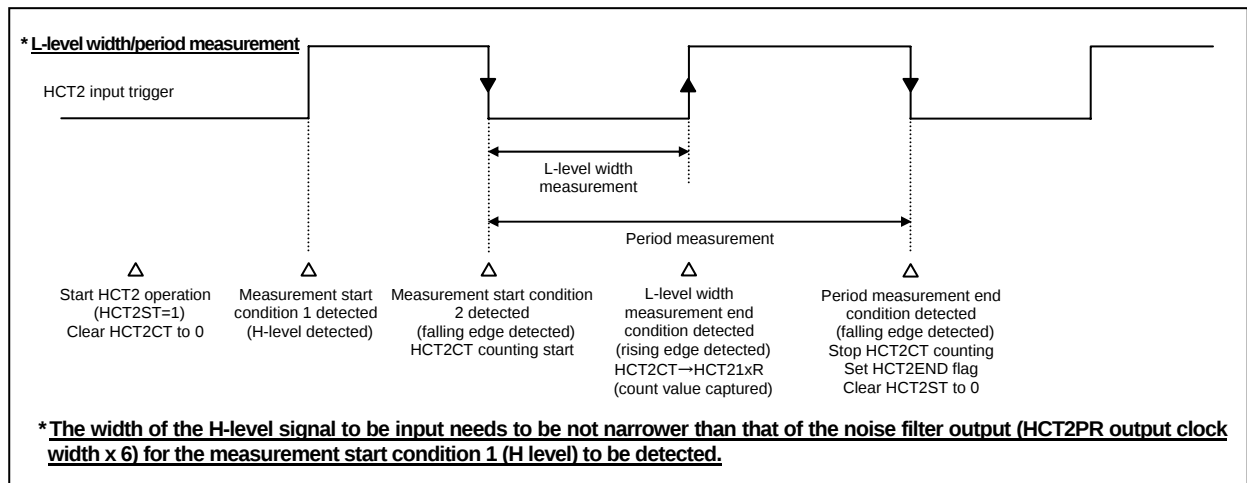

Figure 3.8.2 Sample High-speed Pulse Width/Period Measurement Counter 2 Waveforms
- 3) The contents of the HCT2CT are captured into this register if the end of L-level width measurement condition is detected when the HCT2ST is set to 1 (see Figure 3.8.2 for details).
- 3) The contents of the HCT2CT are captured into this register if the end of L-level width measurement condition is detected when HCT2ST is set to 1 (see Figure 3.8.2 for details).
* See Figure 3.8.2 for details.
- * The measurement starts when the specified measurement start condition is detected after HCT2ST is set to 1 (see Figure 3.8.2 for details).
This bit is set to 1 when the end of HCT2 measurement condition is detected (see Figure 3.8.2 for details).
- 3) The contents of the HCT2CT are captured into this register if the end of L-level width measurement condition is detected while HCT2ST is set to 1 (see Figure 3.8.2 for details).